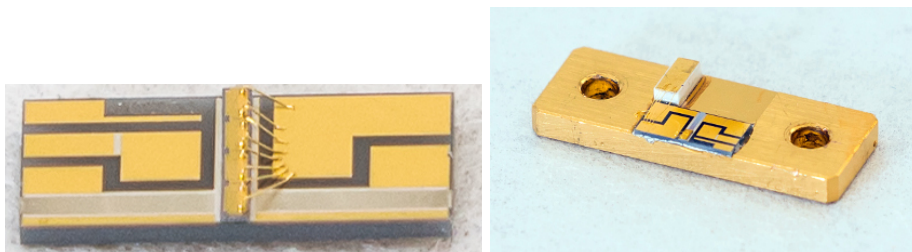

Figure 1.4.: ALPES LASERS AN submount (left) and AN-NSP submount (right).
**AN-NSP submount** See figure 1.4. A laser on AN submount can also be mounted onto a NS-like copper submount, denominated AN-NSP submount.